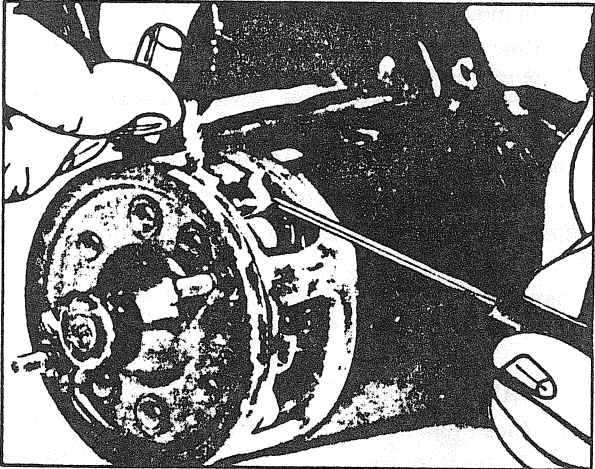

FIGURE 1A
- After removing the end cover band, use a hook and lift the spring pressing the carbon brush onto the commutator (do not bend the spring to the side nor lift up more than necessary) (Fig. 1A).